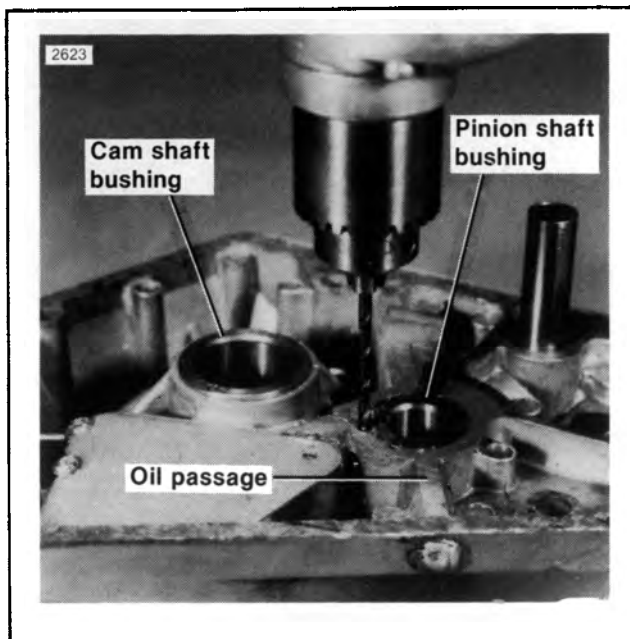

Figure 3-36. Pinning Gearcase Cover Bushings
4. See Figure 3-36. Locate and center punch dowel pin location 0.125 in. or more from oil hole in cover. Drill No. 31 hole 0.188 in. deep. Press in bushing until it bottoms on shoulder in cover boss hole. Continue drilling dowel pin hole to depth of 0.281 in. from top of bushing. Drive in new dowel pin no more than 0.020 in. below the bushing face and carefully peen edges of hole to lock in place.
3. See Figure 3-36. Center punch and drill No. 31 hole exactly 0.281 in. deep. Drive in new dowel pin and peen bushing edges over dowel to secure it. Pin must be no more than 0.020 in. below the bushing surface.